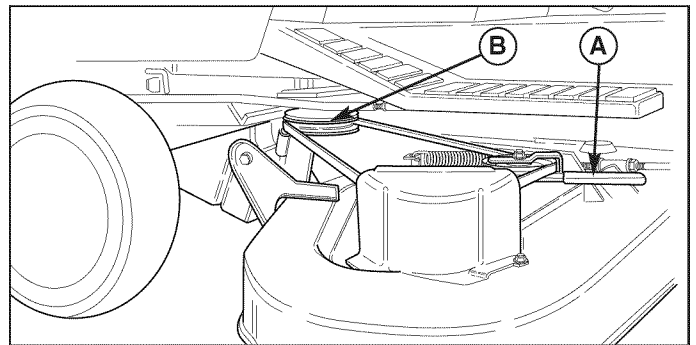

Figure 15. Removing & Installing Belt
3. Move idler arm (A, Figure 15) to relieve belt tension. Remove belt from PTO pulley (B).
5. Move idler arm (A, Figure 15) to relieve belt tension. Install belt onto the PTO pulley (B).